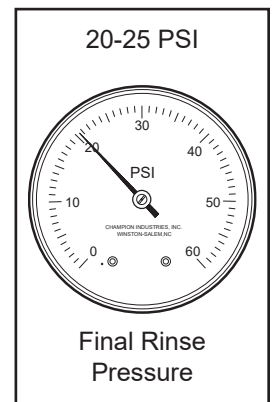

Fig. 19 - Gauge Face
2. Adjust the PRV to supply a minimum flowing pressure of 20 PSI / 138 kPa during the final rinse. The maximum flowing pressure must not exceed 25 PSI / 172 kPa during the final rinse (see Fig. 19).